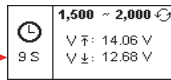
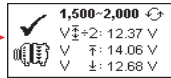

Fig.46
Fig.47
9. Press  key to continue and below display will show. (See Fig.46).
10. Rev the engine to around 2,000 RPM and hold, the timer shown on the display (Fig.46) will countdown from 10s to 0s. As soon as it reaches zero second, the results will automatically display as per example shown below (Fig.47).
12. Continue from the previous test (either Fig.47, 48 or 49); the display automatically switched to **[Diode Ripple Test]** as shown in Fig.50 below after 5 seconds.